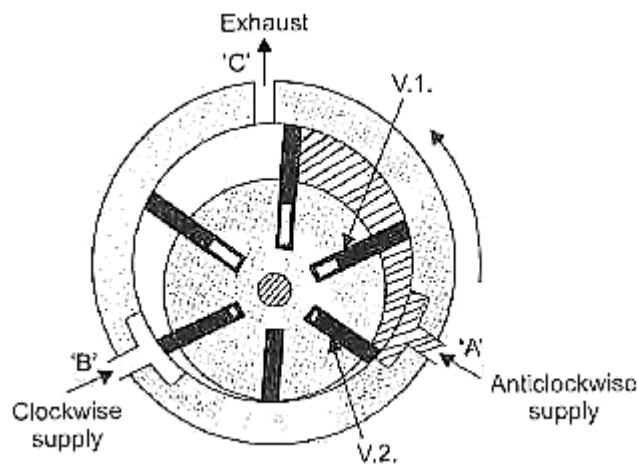

Fig.5.13 Vane motor
- ▶ Fig.5.13 illustrates the operational principle of a reversible internal vane motor. A rotor shaft carrying vanes is mounted eccentrically in the power chamber with the vanes arranged to slide radially to seal against the power chamber wall.